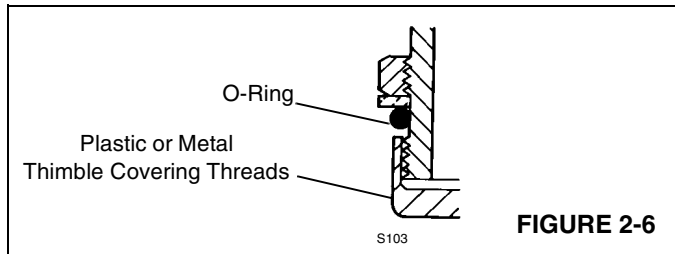

FIGURE 2-6
- Be careful not to cut O-rings when assembling to fittings. Use thimble as shown in Figure 2-6 when assembling O-ring over threads.